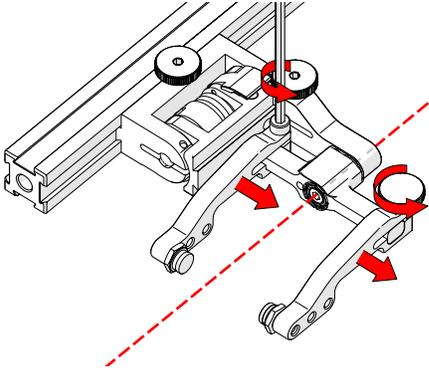

Fig. 103 - Adjust probe holder arms
5. Loosen the probe holder arm adjustment knob (Fig. 103) and remove the outer probe holder arm from yoke.
6. Adjust the inner probe holder arm as required to best centre the probe on the yoke's pivot axis (Fig. 103).
TIP: The probe holder yoke can accommodate many different probe and wedge sizes of varying widths. It is best to centre the wedge with the yoke's pivot axis to reduce wedge tipping when scanning. Position the inner probe holder arm accordingly with the centre of the yoke (Fig. 103).